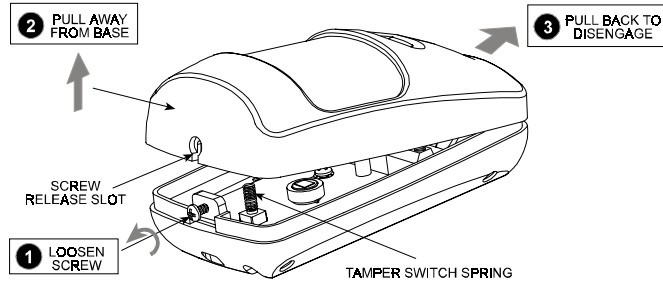

Figure 2. Cover Removal
A. Remove the front cover as shown in Figure 2.
- A. Remove the front cover as shown in Figure 2.